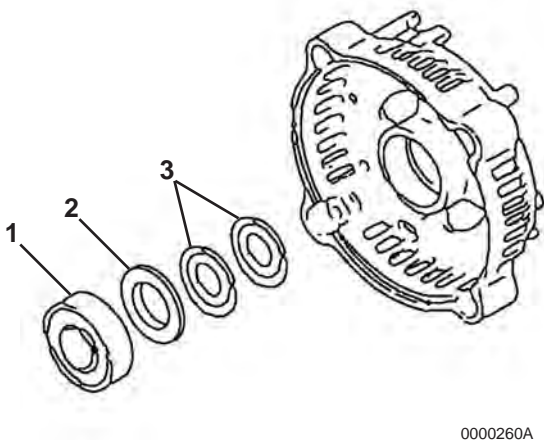

Figure 11-11
- If it is necessary to replace the bearing (**Figure 11-11, (1)**) in the rear frame housing, use a puller to remove. Discard the bearing. Remove the bearing cover (**Figure 11-11, (2)**) and two thrust washers (**Figure 11-11, (3)**).